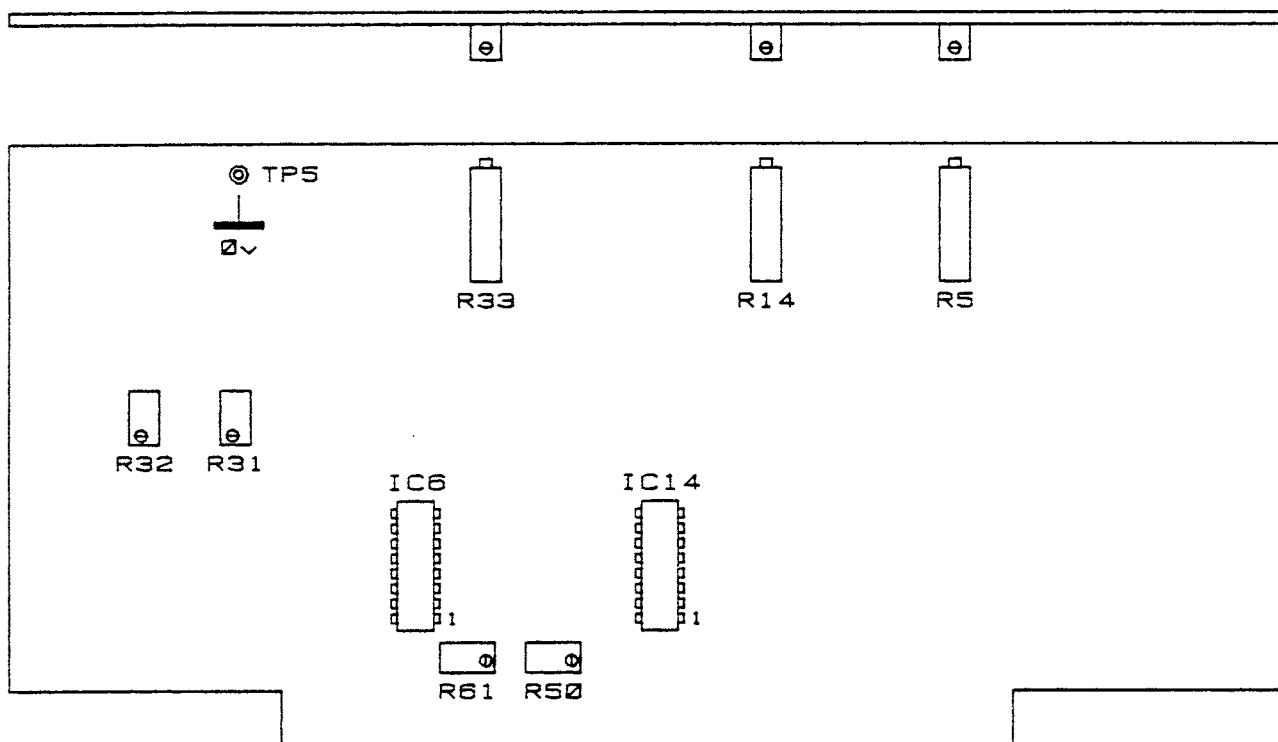

Fig. 8 Calibration component location chart (AC12)
66. Connect the probe to IC6 pin 9 and adjust AC12, R32 to set the negative-going pulse length to 12  $\mu$ s  $\pm 0.5$   $\mu$ s. The position of R32 is shown in Fig. 8. Connect the probe to IC6 pin 7 and adjust AC12, R31 to set the negative-going pulse length to 12  $\mu$ s  $\pm 0.5$   $\mu$ s.
- (1) The standard 6511 should be maintained at the standard temperature of 22°C and should be handled as little as possible.
- (2) Ensure that the AUTOZERO operations are carried out correctly with no r.f. applied.
- (3) Familiarity with the CALAID facilities is essential before attempting the following alignment. Instructions on the use and operation of the facility can be found in the beginning of this chapter if required.
70. Set each of the following potentiometers to approx. mid-travel, location of these are shown in Fig. 8 and 9.